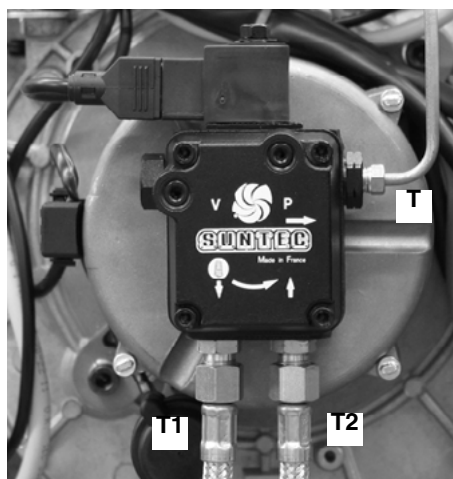

Fig. 50
- Slacken the light oil pipes **T1** and **T2** from the pump (Fig. 50).